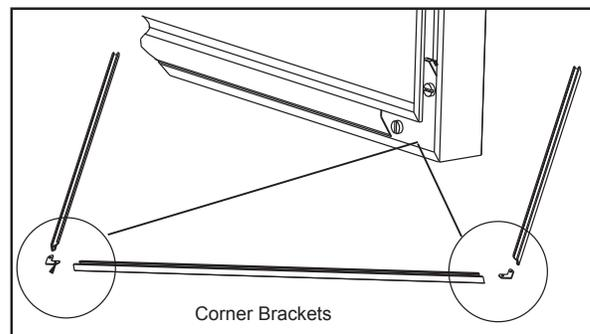

Figure 21.3
4. Using a standard flat screw driver tighten the corner brackets. **Figure 21.3**.